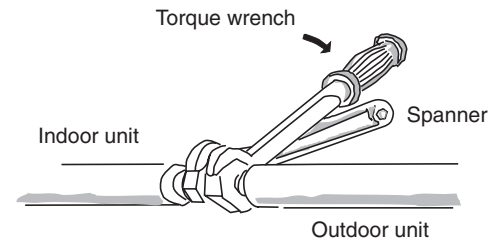

Fig. 1-19
- When removing the flare nuts from the tubing connections, or when tightening them after connecting the tubing, be sure to use 2 adjustable wrenches or spanners. (Fig. 1-19)